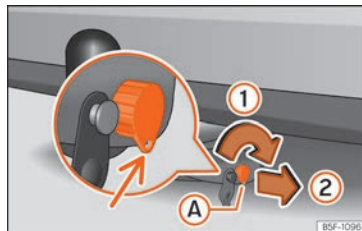
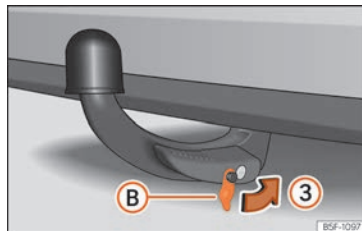

Fig. 296 Locking the lock.
Fig. 297 Placing the cover over the lock.
- Turn key ① in the direction of arrow ① until the part of the key with the holes reaches the bottom position »» Fig. 296.
- Remove the key in the direction of arrow ②.
- Place cover (B) in the lock in the direction of arrow (3) »» Fig. 297 »» 1.